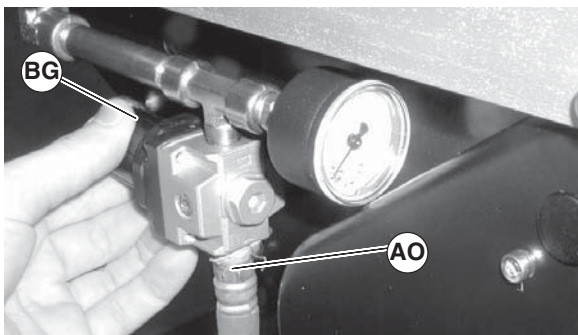

Figure 34
1. Connect air supply (Figure 34, item AO) to regulator (BG).
2. Adjust regulator (Figure 34, item BG) until gage reads the appropriate pressure. Adjust regulator starting at 15 psi sufficiently to keep belt from slipping up to the maximum shown in the following table.